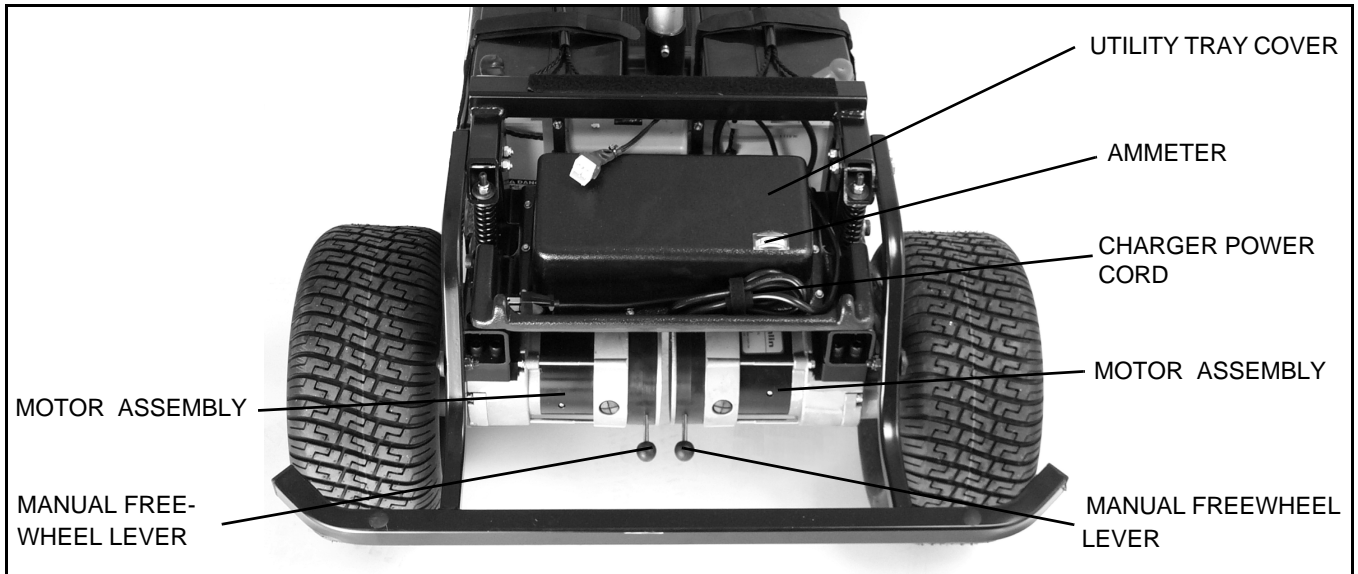

Figure 6A. Rear Section
Whenever you want to push your PMV for short distances, you can put it in manual freewheel mode. The manual freewheel levers are located on the end of the motors at the rear of the PMV. See figure 6A.
4. Extend the charger power cord (see **figure 6A**) and plug it into the electrical outlet. We recommend you charge your PMV's batteries for 8 to 14 hours.